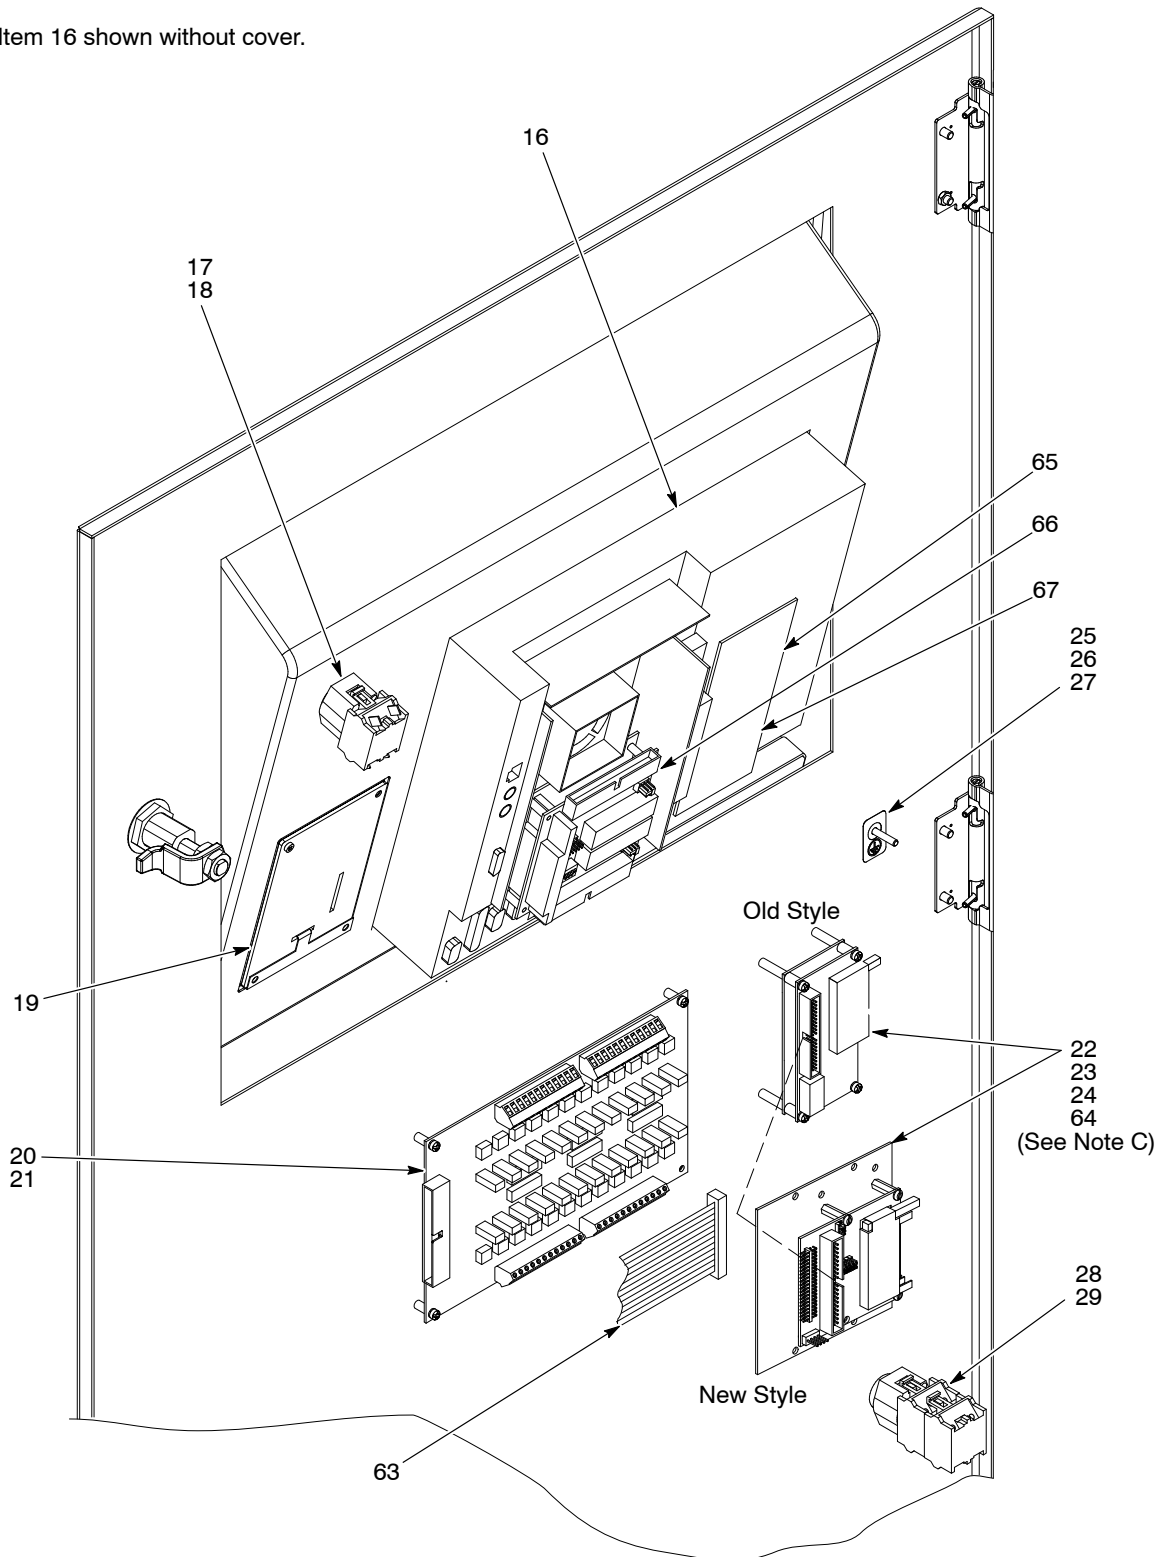

Figure 6-2 Console Parts (2 of 5)
See Figure 6-2 for the parts listed in this table:
<p>NOTE A: For refurbished control unit, order part number 1071310.</p> <p>B: Included with control unit.</p> <p>C: Quantities of noted parts depends on system configuration and console type.</p> <p>D: See Figure 6-2. If replacing old-style adapter with two eject buttons, order 1036629, which includes new-style adapter, mounting plate and fasteners, power supply adapter cable, and power supply cable (item 64). If new-style adapter (one eject button) is being replaced, order 1072833.</p> <p>AR: As Required</p>